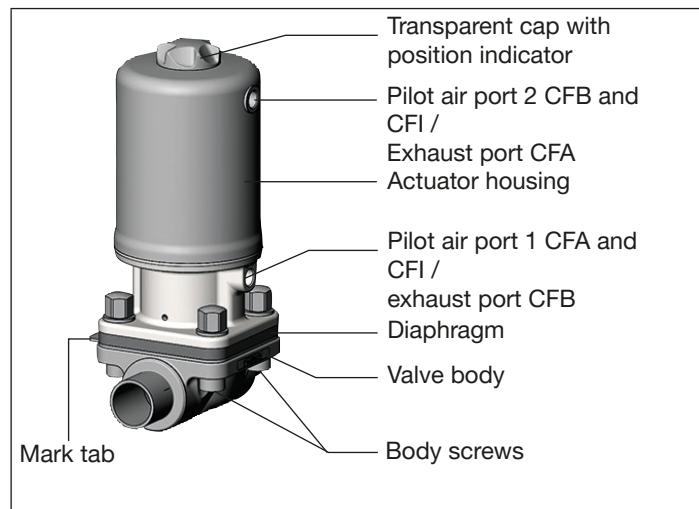

Fig. 30: Maintenance
The mark tab of the diaphragm must be perpendicular to the flow direction (see “Fig. 30”).
**The mark tab of the diaphragm must be perpendicular to the flow direction (see “Fig. 30”).**